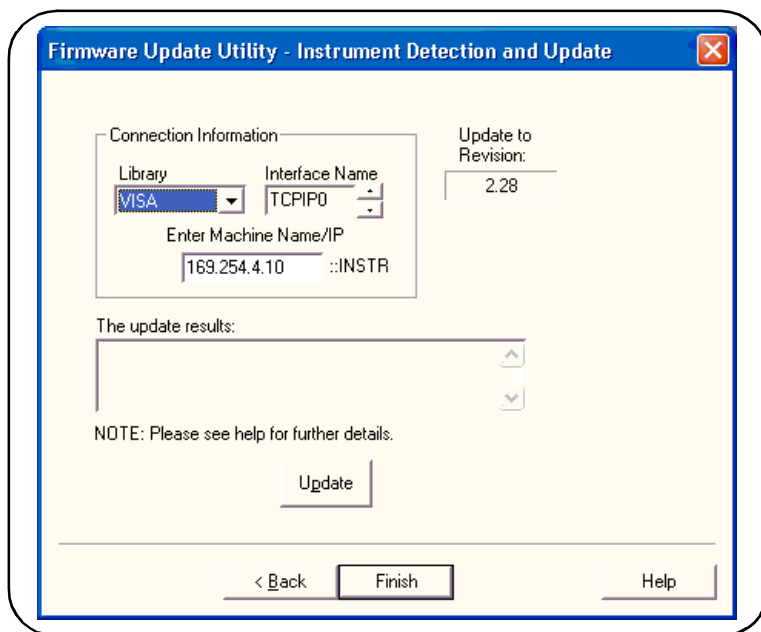

Figure A-2. Specifying the Instrument Address.
3. Select the I/O interface to the instrument and then select 'Next'. Enter the machine name, IP address, GPIB address, or Alias,... as prompted (Figure A-2). Select 'Update' to start the update process.